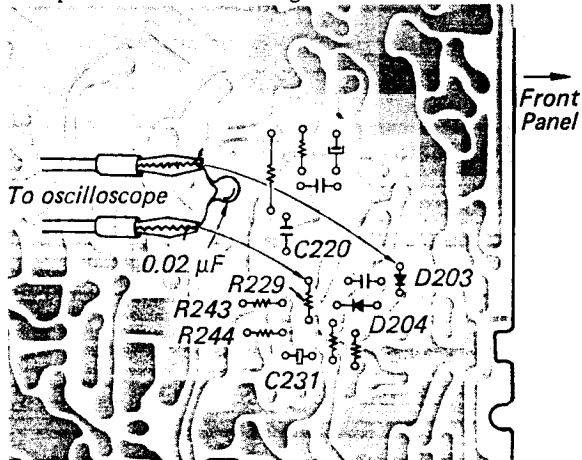

Fig. 3-3. Fm discriminator output connection
1. Connect the input cable of the oscilloscope with alligator clips to R229 and ground on the fm (a-m) front-end/i-f amp/MPX and preamplifier board, and solder a 0.02 µF capacitor across these clips as shown in Fig. 3-3.